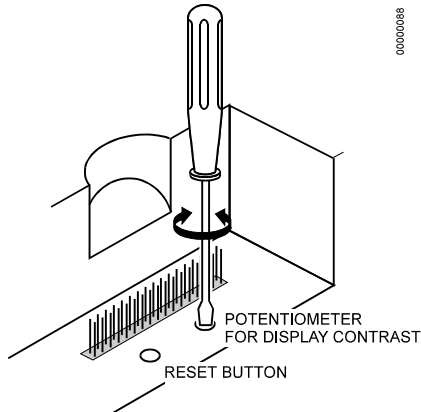

Fig. 34. Adjusting the display contrast
3. Adjust the display contrast with a slotted screwdriver or a cross-tip screwdriver as shown in Fig. 34.